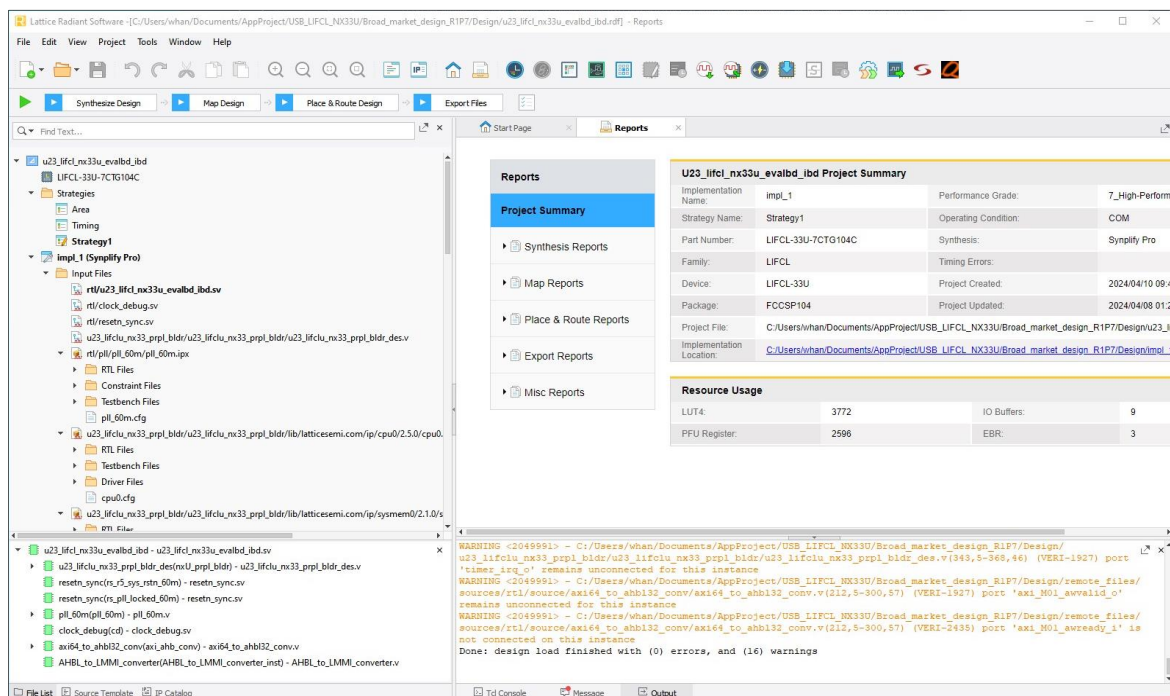

Figure 5.13. Open the Radiant Design
2. Open the Radiant project file `u23_lifcl_nx33u_evalbd_ibd.rdf` from the `./Design/` folder, as shown in Figure 5.13. The design should have no errors but there are 16 warnings due to some unused signals from some instance. The warnings should not affect the design compilation and bitstream generation.